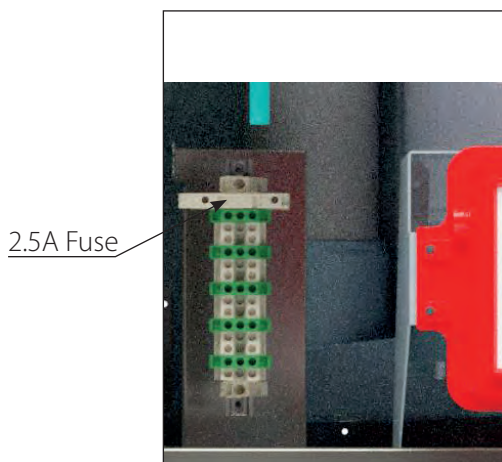

Fig. 33 - Terminal Strip Location
- A 2.5A fuse is also located on the terminal strip, to protect the output. Refer to *Fig. 33 on page 48*.
1. Connect a dedicated 120 VAC/15A service to the line voltage terminals located internally in the lower left corner, as shown in Fig. 33 below.
2. Connect the CH circulator wiring to the line voltage terminals located internally in the lower left corner, as shown in Fig. 33 on the left. This circulator is typically used to supply heat to the central/space heating loop.
3. Connect the DHW circulator wiring to the line voltage terminals located internally in the lower left corner, as shown in Fig. 33 on the left. This circulator is typically used to supply heat to an indirect hot water heater.
4. Connect the system pump wiring to the line voltage terminals located internally in the lower left corner, as shown in Fig. 33 on the left.